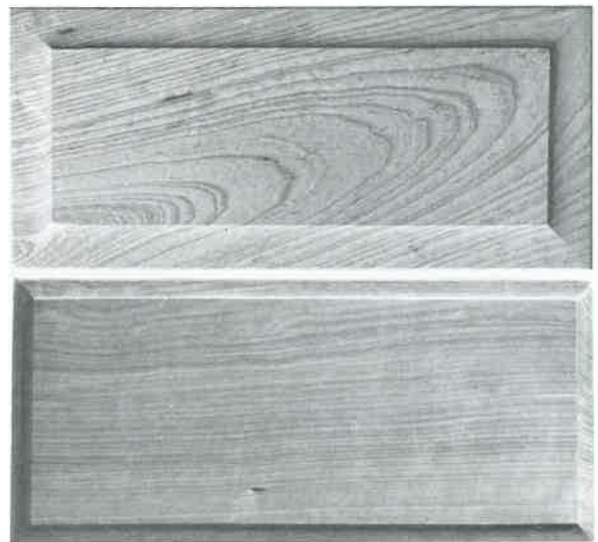

Fig. 22-4. Prefabricated drawer fronts are made in many designs. Top. Raised panel effect. Bottom. Ogee edge. (Frank Paxton Lumber Co.)
1. Select the material for the fronts. Grain patterns should match or blend with each other. Solid stock or plywood may be used. Today, a variety of prefabricated drawer fronts are offered in many standard sizes. See Fig. 22-4.